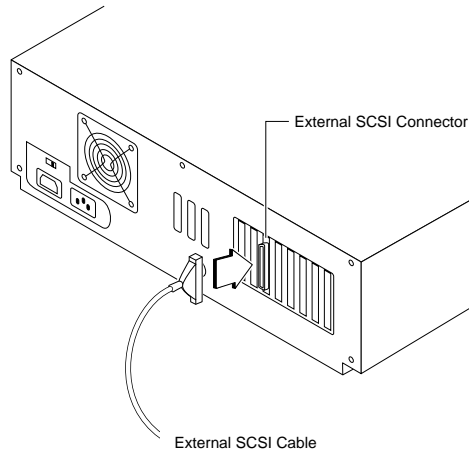

Figure 3-9. External Cable to Host Adapter
- 1 Attach the external SCSI cable to the external SCSI connector, as shown in Figure 3-9. External cable orientation is automatic since connectors can be plugged in only one way.